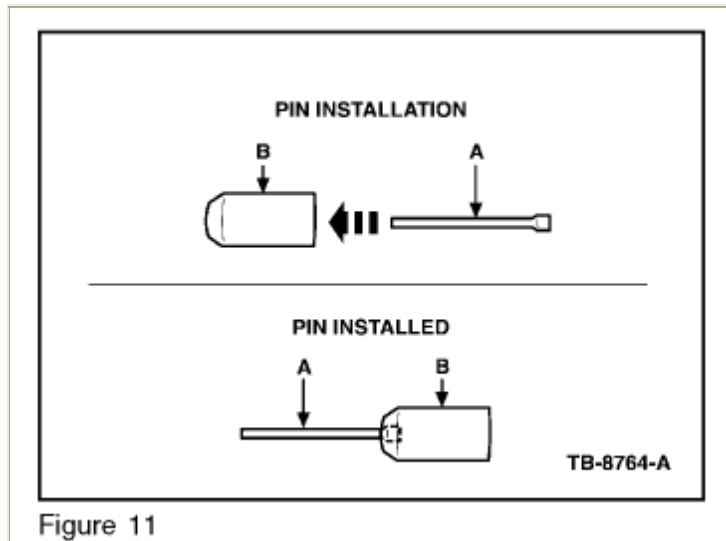

Figure 11
3. Insert a pin (A) into the collet (B). Screw the collet onto the threaded rod (C). Install the assembled collet, pin, and threaded rod into the steel tool pilot (F). (Figures 11 and 12)